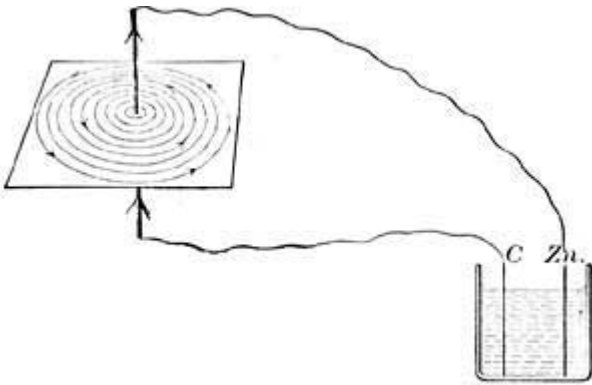

FIG. 227.—A wire through which current flows is surrounded by a field of magnetic force.
d. If a wire is passed through a card and a strong current is sent through the wire, iron filings will, when sprinkled upon the card, arrange themselves in definite directions (Fig. 227). A wire carrying a current is surrounded by a magnetic field of force.